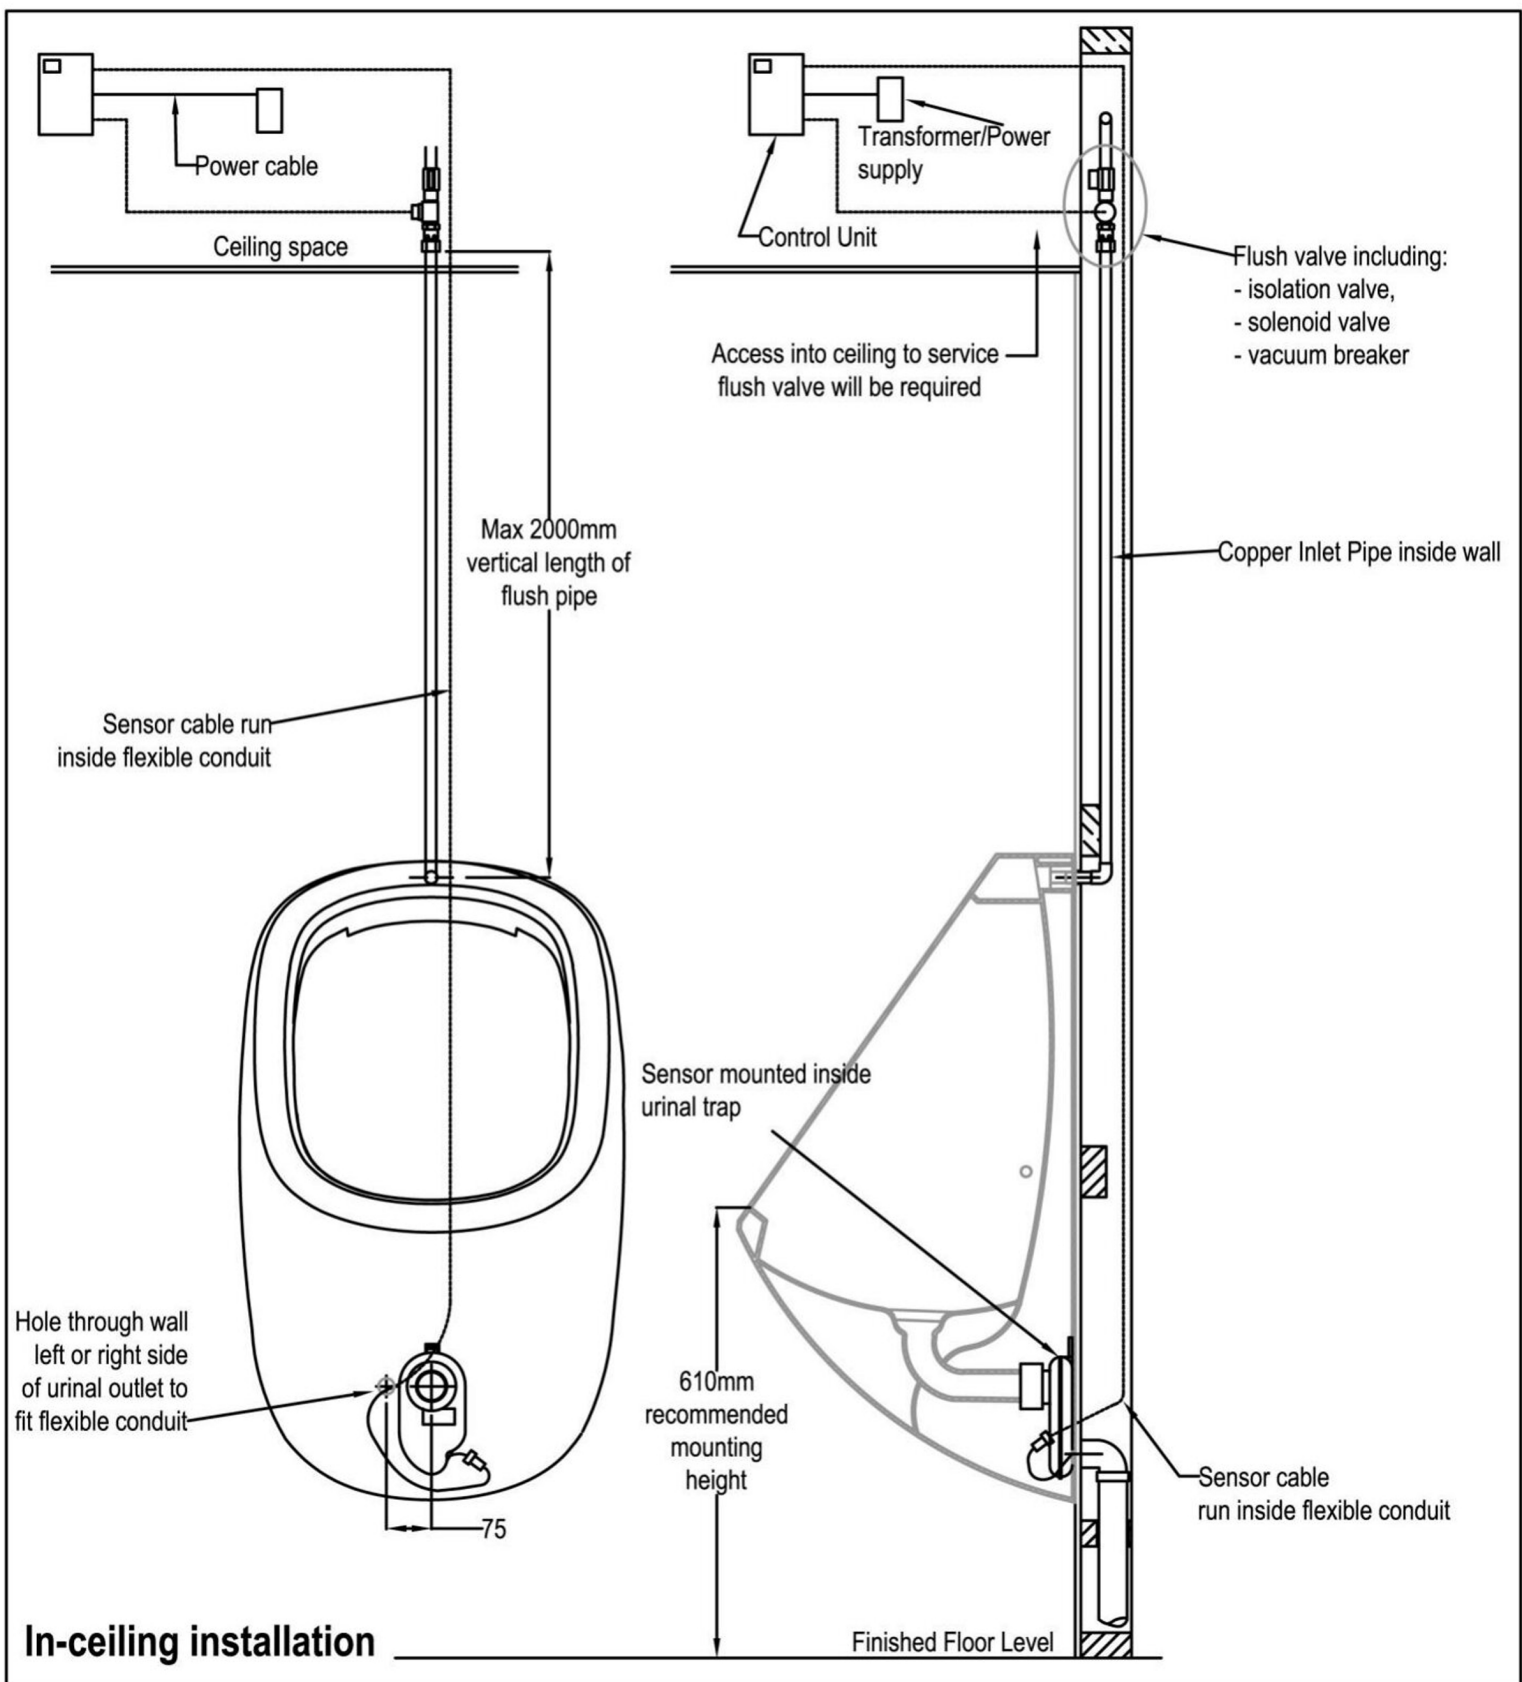
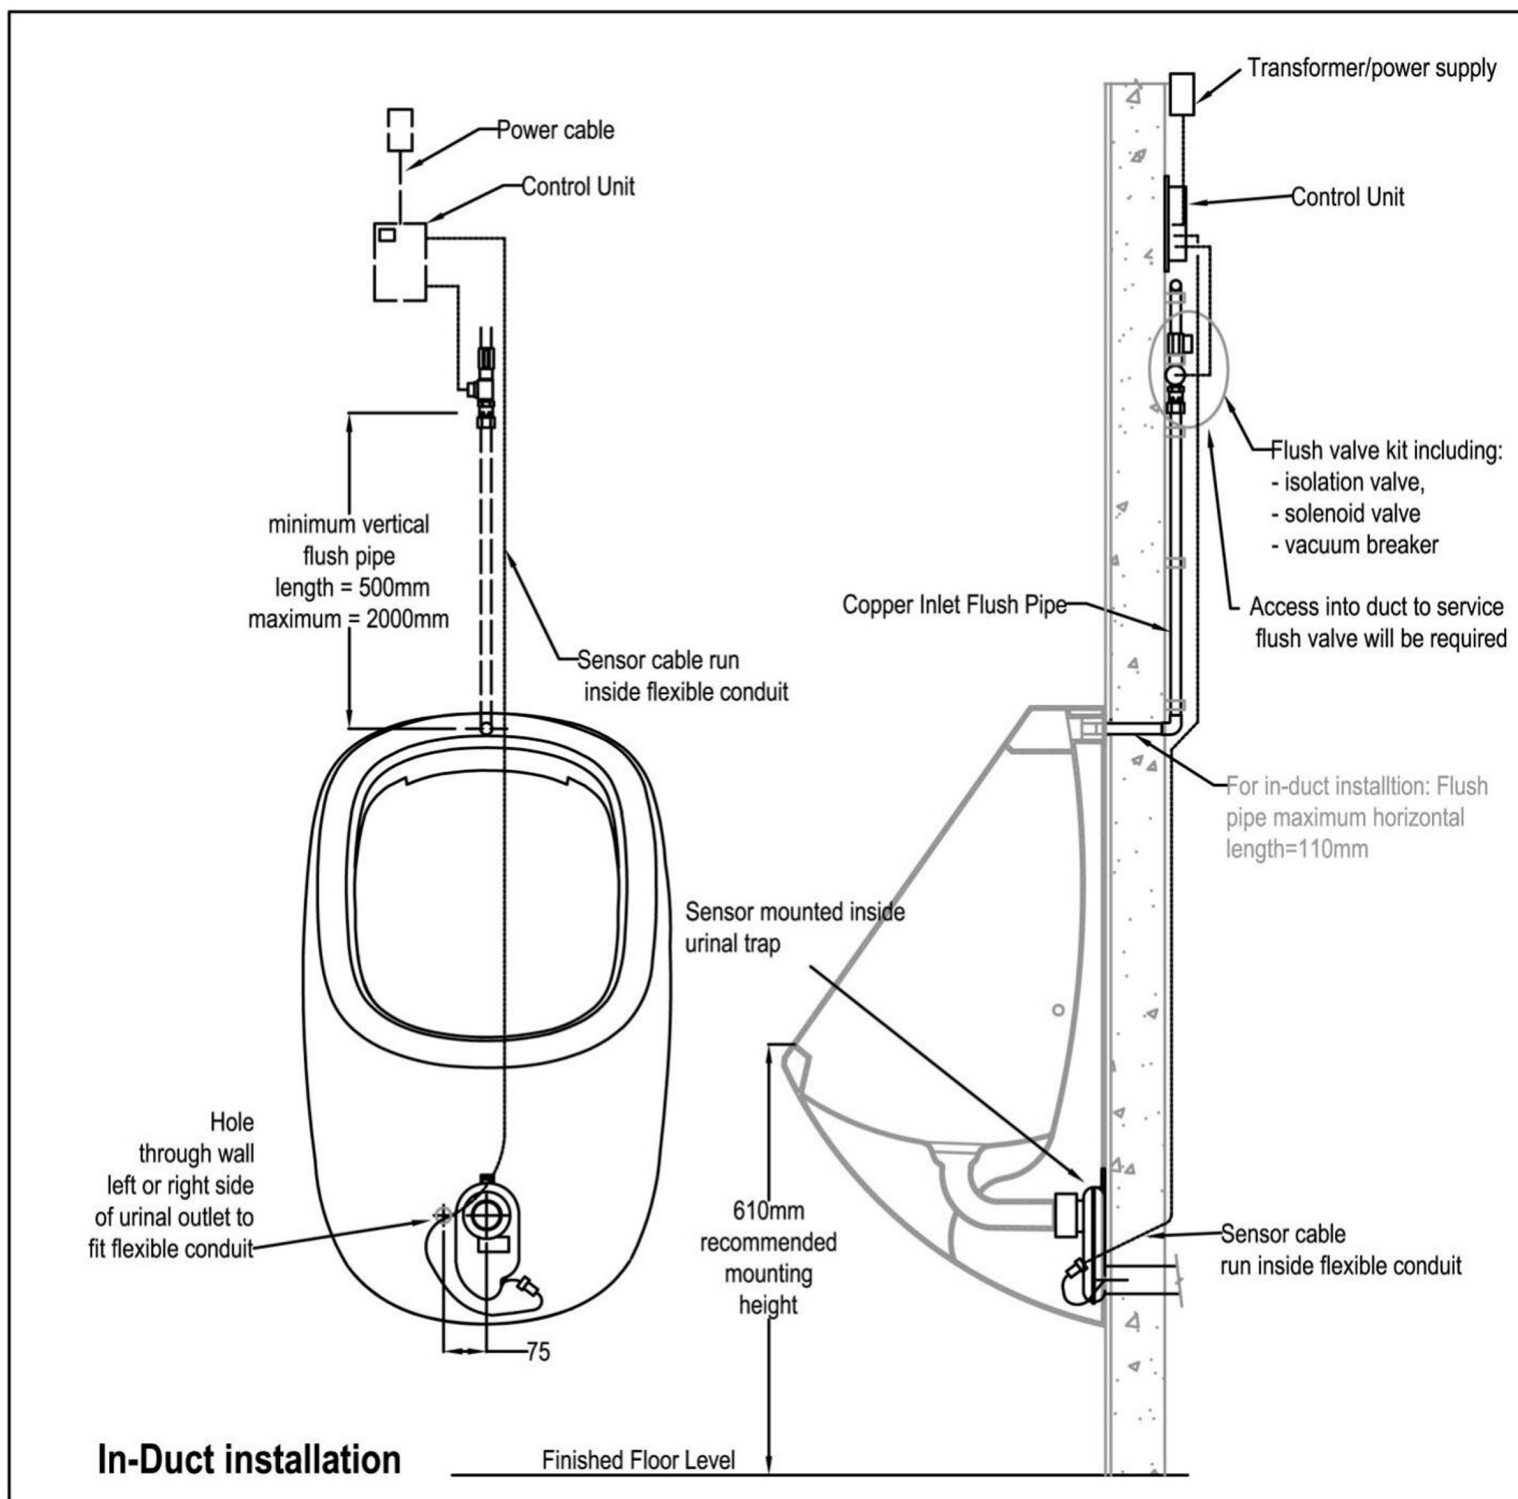
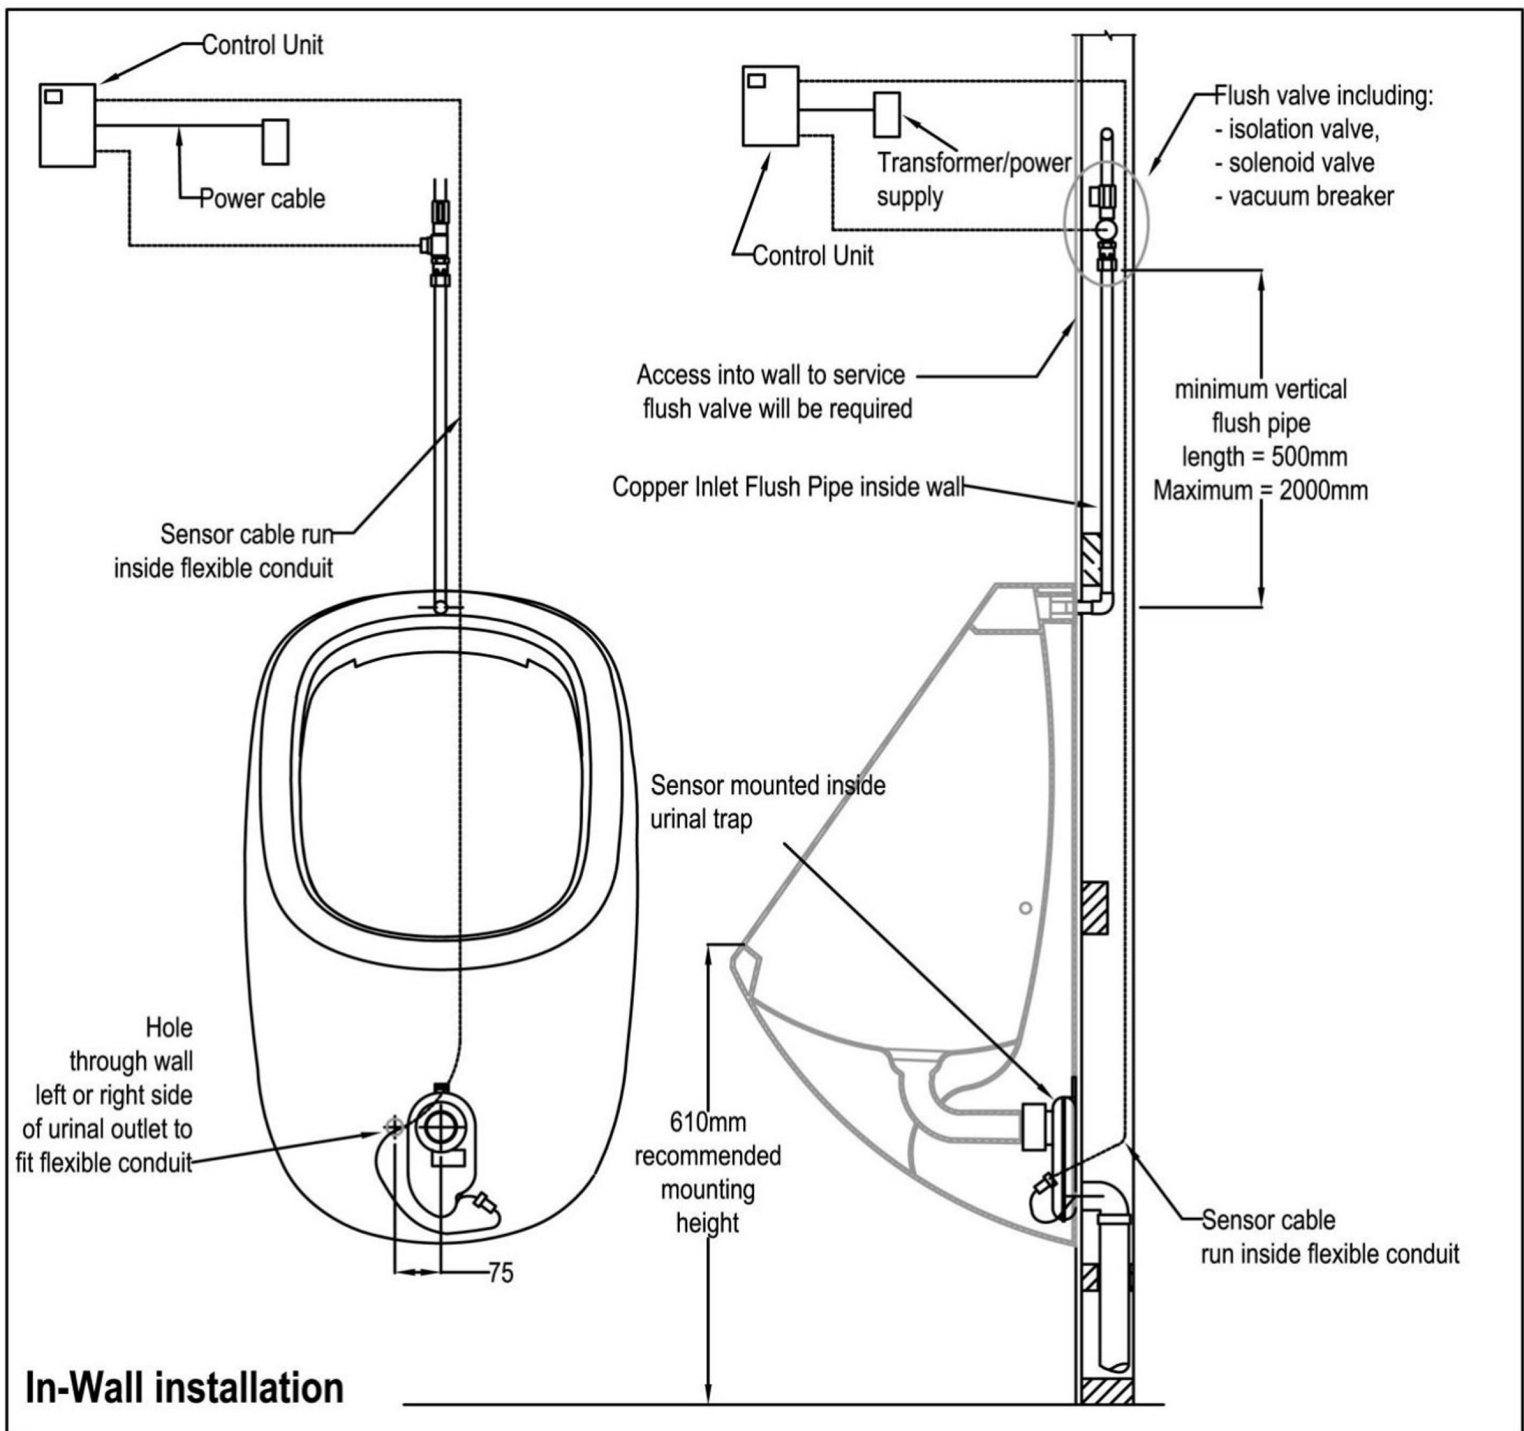

Fig. 10
Fig. 11
Fig. 12
4. Install flush valve as required in-ceiling (Fig. 10), in-duct (Fig. 11) or in-wall (Fig.12).
- Fig. 10 In-ceiling installation
- Fig. 11 In-duct installation
- Fig 12 In-wall installation